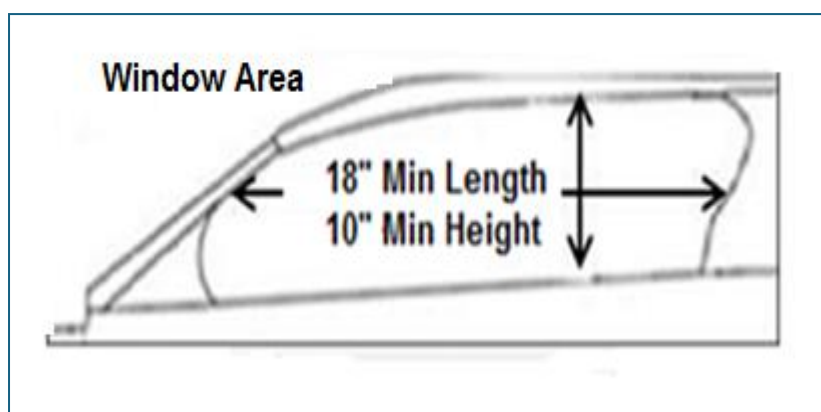

Figure 10
- 11.1** There must be a minimum clear opening of 18 inches long by 10 inches high in both the drivers and passenger side windows (No Tolerance). (*Figure 10*)